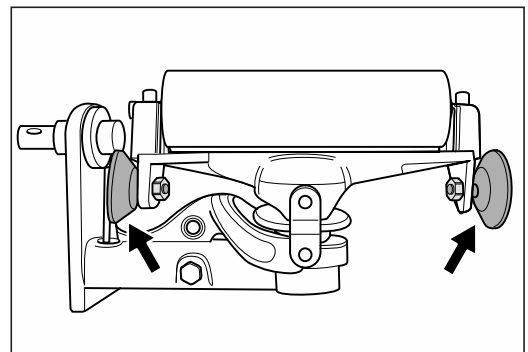

Fig. 43 **The two guide rollers must be rotatable easily! Otherwise they must be replaced! Similar to figure.**
- **The two guide rollers at the drive unit must be rotatable easily (fig. 43)!**